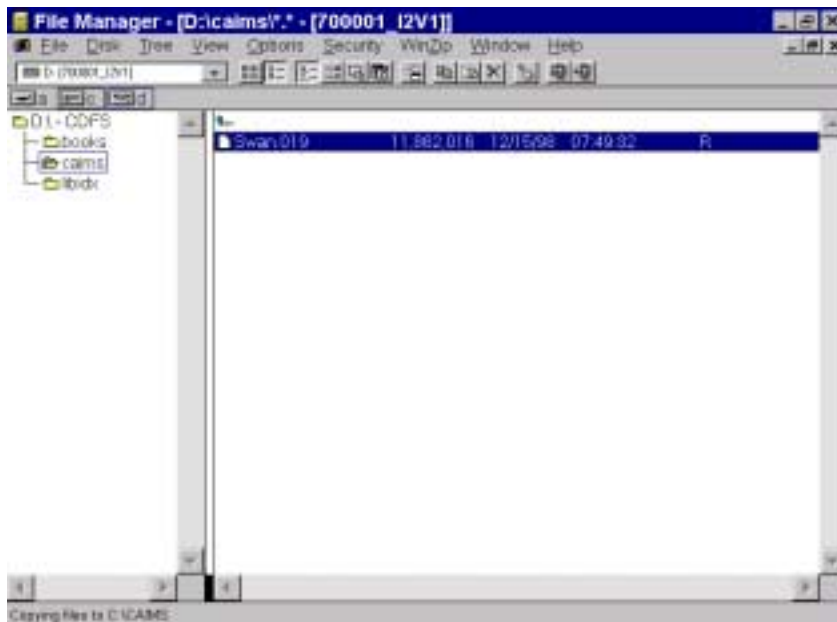

Figure 6 File Manager
8. Select the D:\ drive icon, CAIMS directory and copy the LDI file from the CD-ROM CAIMS directory to the C:\CAIMS directory by dragging the file to the C:\ drive icon. (e.g. Swan.019). See Figure 6.